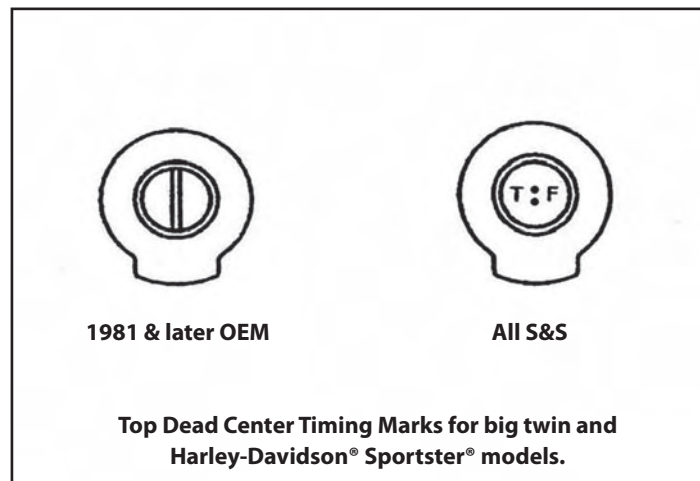

Figure 1
- h. Rotate back tire to position TDC (Top Dead Center) mark on Flywheel in center of timing hole. For timing mark identification, see **Figure 1, below.**